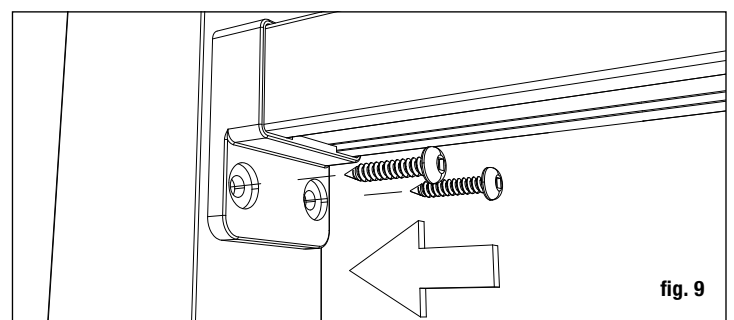

fig. 9
Step 8 The finished rail height is typically a minimum of 36" or 42". Using the cable spacer, prop rail in place and level. Mark the bracket holes on both posts. Remove rail. Predrill screw locations through the posts, using a 3/16" drill bit at top bracket locations (fig. 9).
Step 10 Position the rail between the posts. Check for level end-to-end and vertically. Attach brackets to the post at one end. Repeat for the other end. *Tip: Use a driver extension bit to avoid marring the rail with the drill chuck. Install all rails prior to installing cable.* (fig. 9)